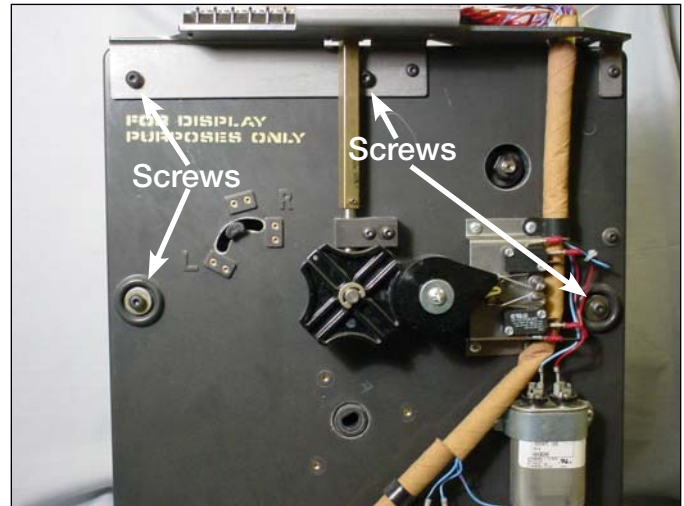

Figure 15.
7. Using a 5/32 Allen wrench, loosen and remove the pan head Allen screws fastening the front drive assembly section and the contact panel assembly section together. See Figure 15.